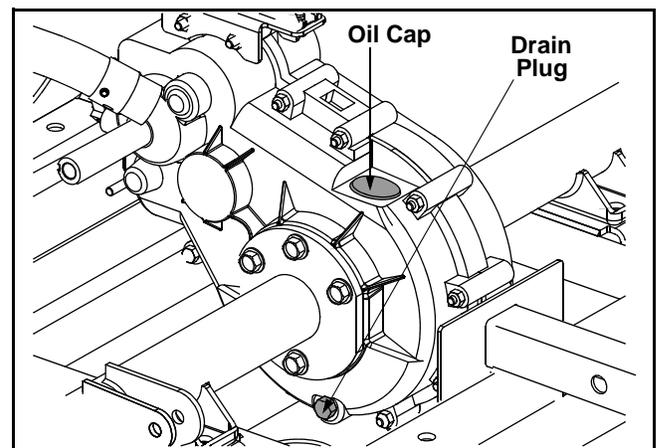

Figure 18
- Access drain plug through slot on underside of machine and remove plug. See Figure 18.